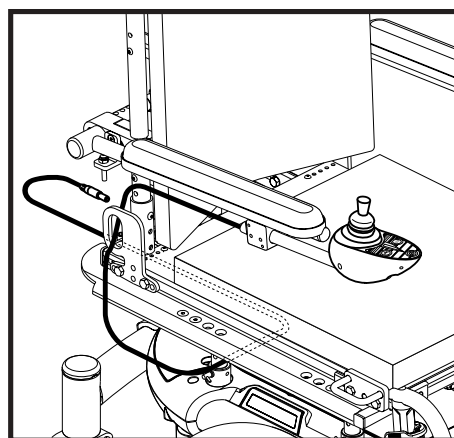

Figure 25. Cable Routing
6. Route the controller cable to the back of the power base and reconnect the controller. See figure 25.